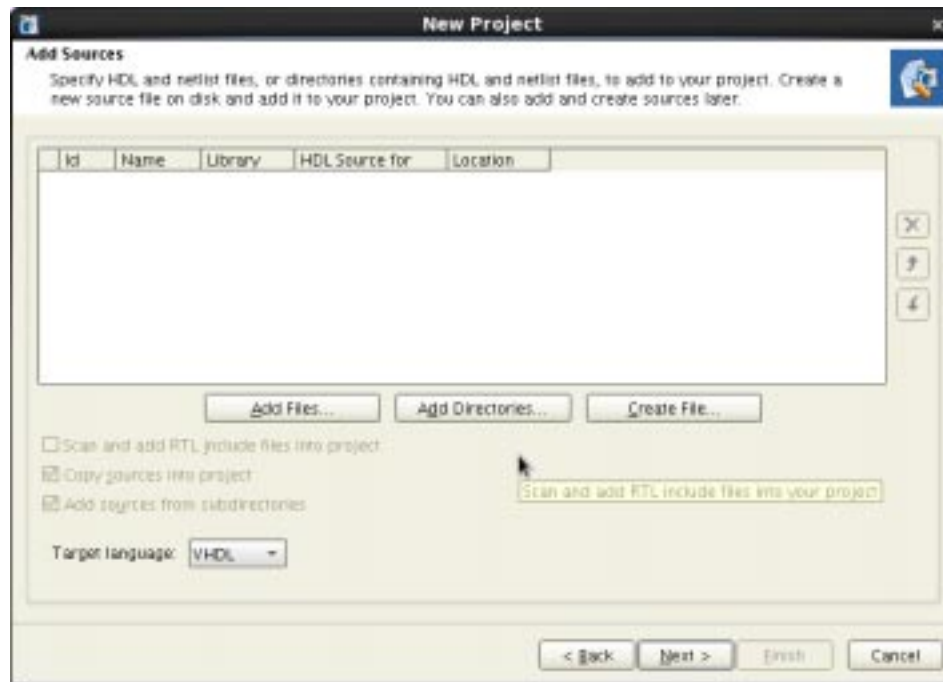

Figure 4: Add Sources.
3.4 Although no sources need to be added to this project (as it is purely software based), **change the target language from Verilog to VHDL** in the drop down box as shown in Figure 4. Future labs will involve using VHDL as the language used to program the FPGA and it is at this point in the flow that the hardware description language (HDL) needs to be specified. Select **Next** to continue.